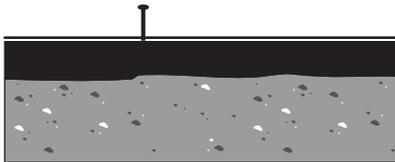

Figure 3-4. Stringline Reference
2. Roll out the stringline to the desired length. Pull tight and secure to another nail at the opposite end. The tightened stringline rests on top of the existing surface (Figure 3-4).